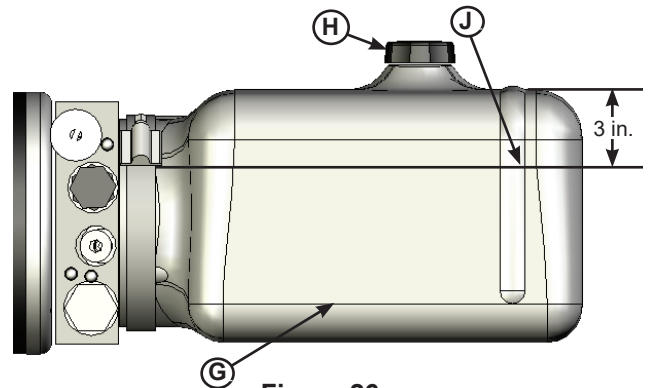

Figure 26
- Check reservoir fluid level (J, see Figure 26):
3. Remove breather cap (H).
4. Measure fluid level. The fluid level should be approximately 3 in. (76.5 mm) from top of reservoir (G) with platform in the raised position.